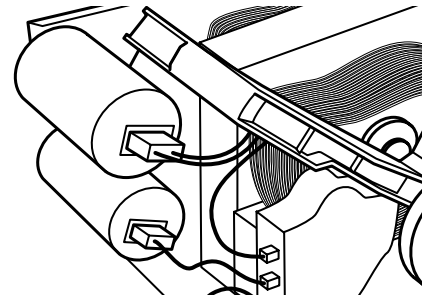

Figure 4 - Motor Capacitors (some models)
11. If the motor has two capacitors attached as shown in figure 4 (Maytag only), perform the following. Otherwise, skip to step 12. Remove and check motor capacitors: each
capacitor can be removed by disconnecting the capacitor connector and removing the nut on the capacitor end (see figure 4). The capacitor connectors are keyed to facilitate correct connection, and are black on black for the run capacitor and light green and gray for the start capacitor. Contact both leads to check inductance of capacitors. Start capacitor inductance should be 189–227  $\mu\text{F}$ ; run capacitor inductance should be 22.3–24.7  $\mu\text{F}$ . Proper torque is 9–12 Nm for each.